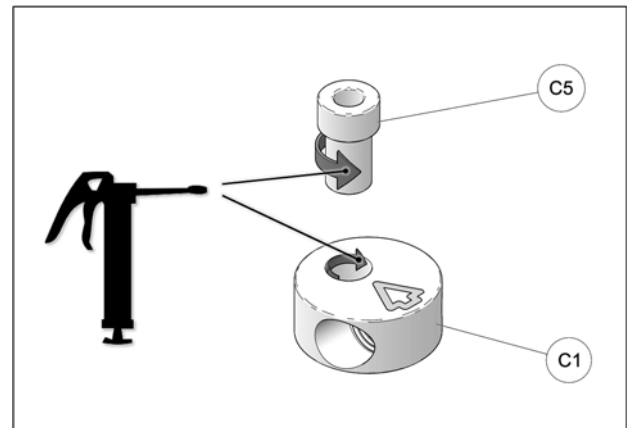

Fig. 17
- Apply grease evenly all around step spacer bushing (C5) and in hole of aluminum disk (C1) when assembling these parts together. See Fig. 17